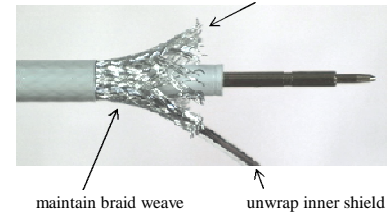

Figure 4
- 6) Inspect and clean connector body as needed. Install the connector body over the dielectric and under the shields until the center contact is fully seated (Fig. 4). Verify that the center contact is captivated.
- 7) Smooth all braids and helical strip down over the rear of the connector body covering the knurl, maintain braid weave as much as possible (Fig. 4). Trim off stray braids at the shoulder (Fig. 4).